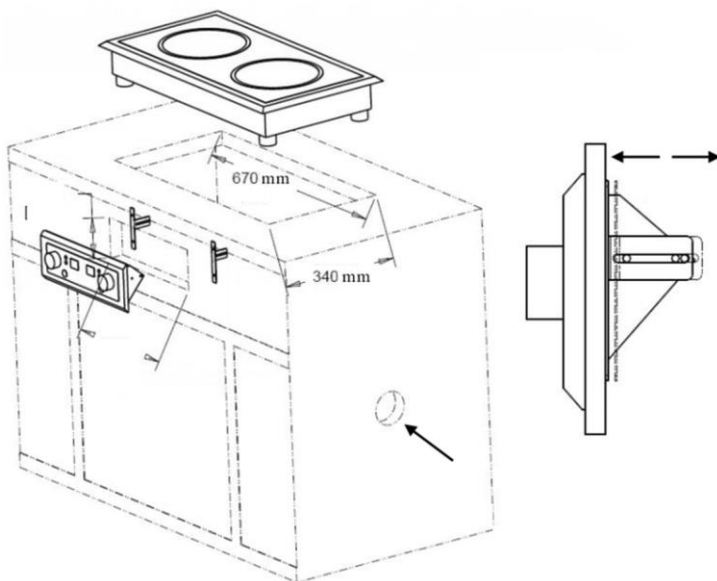

Fig. 2
3. The cut-out for installing the unit must have the following dimensions: 670 mm long and 340 mm wide (Fig. 2).
If the induction cooker is to be flush-mounted in a cupboard, it is necessary to provide ventilation openings (Fig. 2).